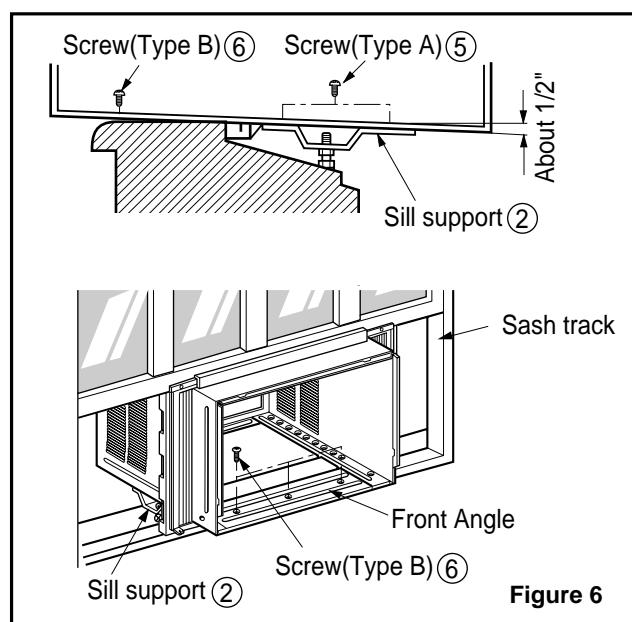

Figure 6
6. The cabinet should be installed with a very **slight tilt (about 1/2") downward** toward the outside (See Figure 6).